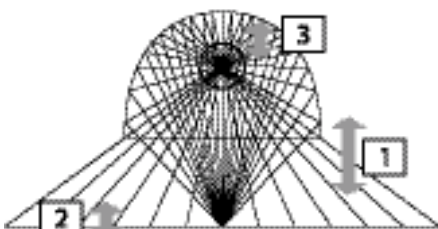

Figure 1
Changes can occur when (refer to Figure 1):
1. If the instrument used was a profiling radiometer, save or draw the different shaped curves for the two positions (See Figure 1). How do they compare?